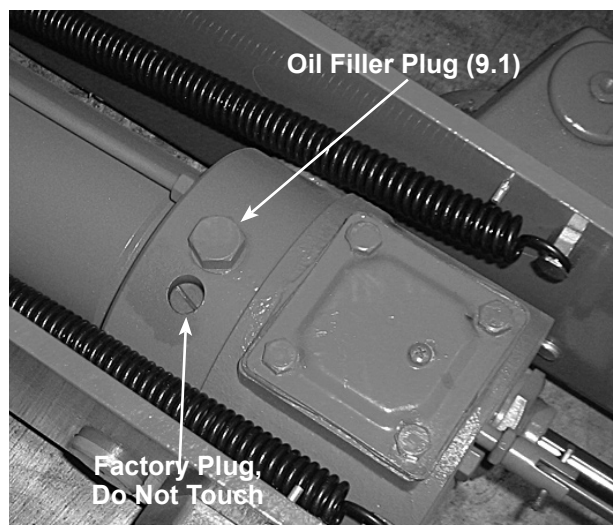

Fig.4
- d. Carefully remove the Oil Filler Plug (9.1) with a 22 socket wrench, making sure not to lose the flat copper washer with it. (See Fig. 4.)